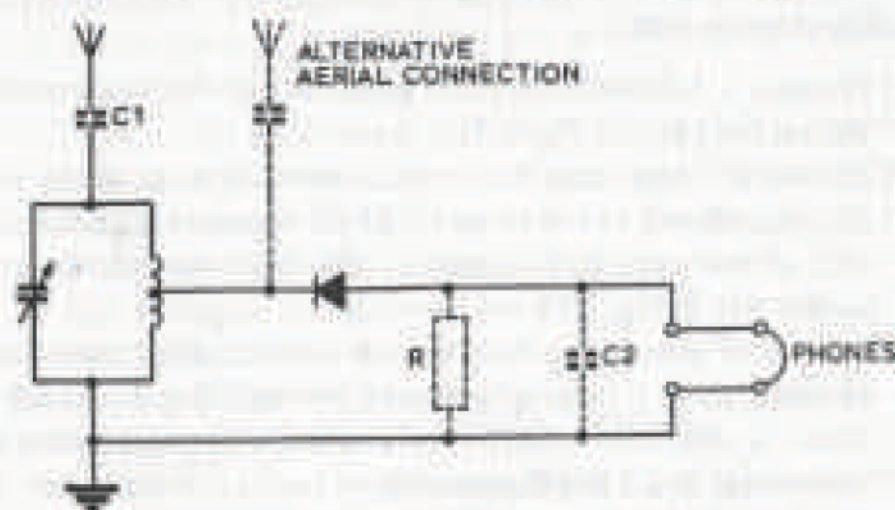

Fig. 3.5 *Circuit 1.* Circuit diagram of basic crystal set.
The wiring-up can be checked against the *circuit diagram* shown in Fig. 3.5 (ignoring the components shown with broken lines). The set should now be 'working'.
- (i) Connect a 1,000-pF capacitor across the headphone (earpiece) connections (C2 in Fig. 3.5).
- (ii) Instead of connecting the external aerial directly to the tuned circuit, connect one lead to a 220-pF capacitor, and the other end of the capacitor circuit to the 'hot' end of the tuned circuit (C1 in Fig. 3.5).
- (iv) Try connecting a 1.2-k resistor (or higher value) across the phone connection (R in Fig. 3.5). You may be using the wrong type of phones or earpiece, which do not provide a proper load or complete the circuit.